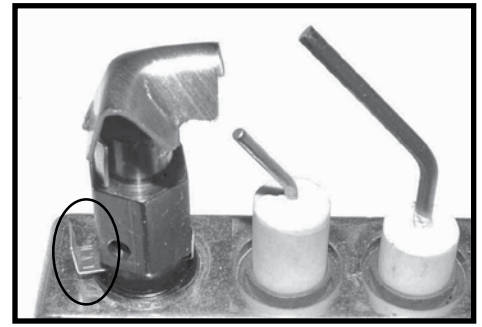
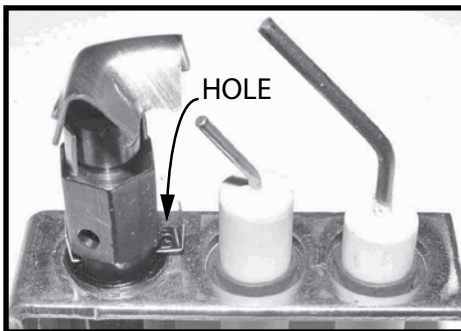

Figure 13: Band in natural gas position.
Figure 14: Band in propane gas position.
7. Slide the pilot adjustment band over and ensure that the hole in the orifice band is showing (Figure 14). Retighten pilot head. Figure 13 shows NG position. Figure 14 shows LP position (Hole visible in band).